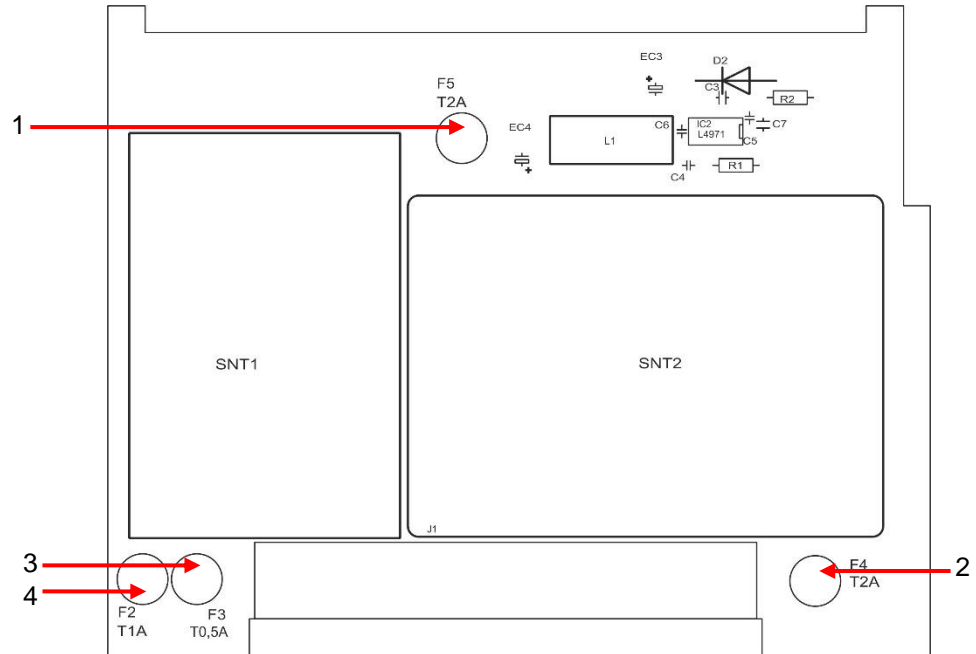

Figure 38
These fuses protect the Testomat® PRO Ca SELF CLEAN device or outputs against overload and short circuit. All fuses are pluggable. The main fuses F1 (1) and F6 (2) (4 A MT) for outputs and equipment are located on the motherboard (see figure 38). The power pack includes the four primary and secondary fuses, F2 to F5 for 24V and 12V, 3.3V